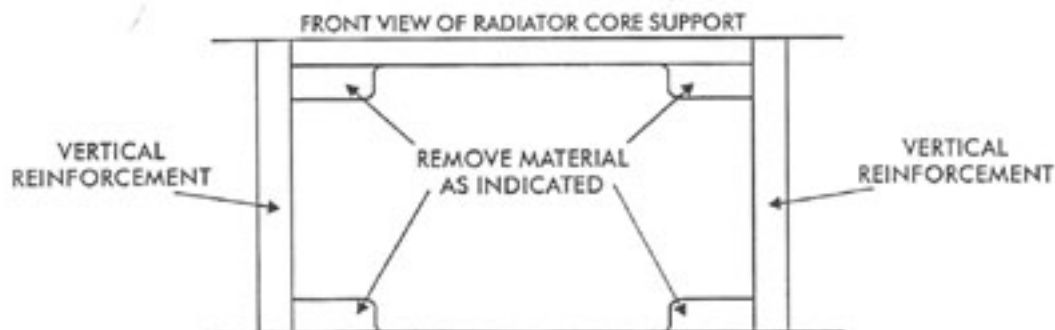

FIGURE 2
- REMOVE THE INDICATED MATERIAL AT ALL FOUR CORNERS OF THE RADIATOR OPENING. SEE FIGURE 2. FOLLOW BODY LINE AND TRIM FLUSH TO THE VERTICAL REINFORCEMENT.